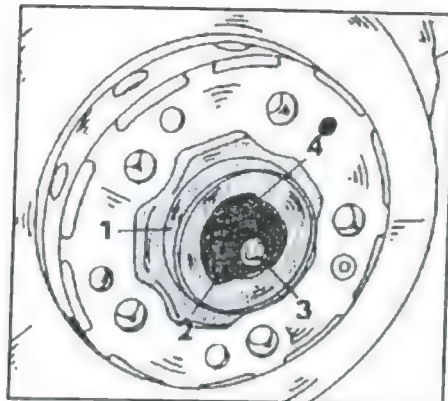

Fig. 4.11 - Details for the front wheel bearing adjustment.
- Refer to Fig. 4.11 and slacken the socket head clamp bolt for the nut (2). Rotate the wheel hub evenly and at the same time tighten the clamp nut until the hub can just be